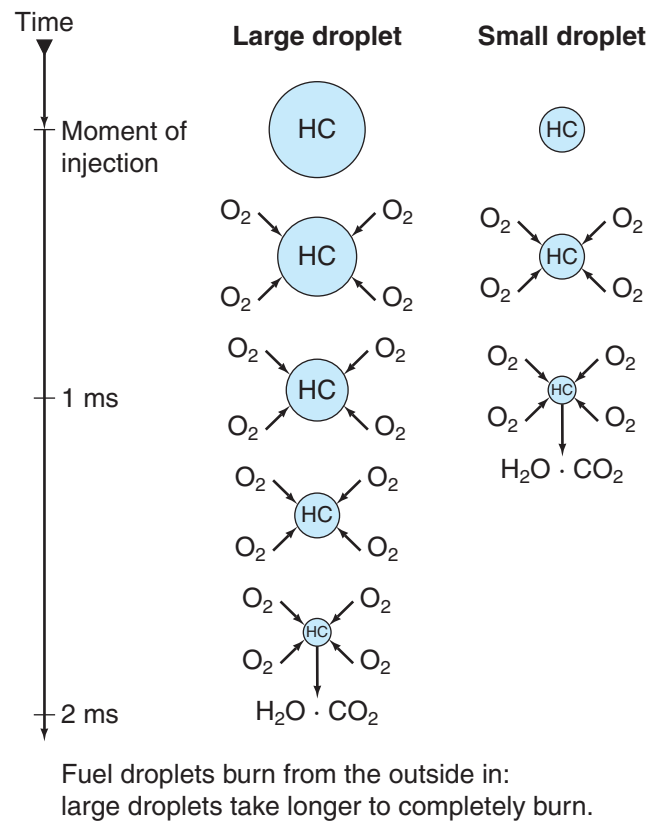

Figure 13-5 Atomized droplet size and speed of combustion.
injected droplet size in the atomized fuel reduces. This reduction in droplet size coincides with the reduction in real time available to burn the droplets injected late in the injection pulse. **Figure 13-5** shows how the size of an injected fuel droplet influences the speed of combustion: the fuel droplet is identified as hydrocarbon (HC) and the air it reacts with as oxygen (O_2) in this image.